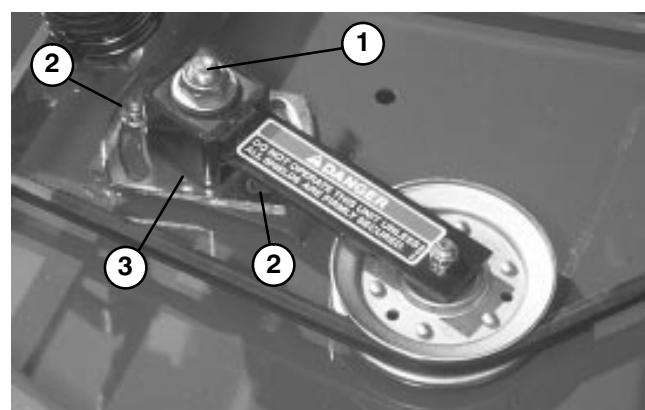

Figure 37
ADJUSTING IDLER PULLEY (Fig. 37)
3. Loosen two nuts securing idler plate in place. Using a socket and torque wrench, tighten the idler adjusting nut to 40–50 ft-lb. (Fig. 37).